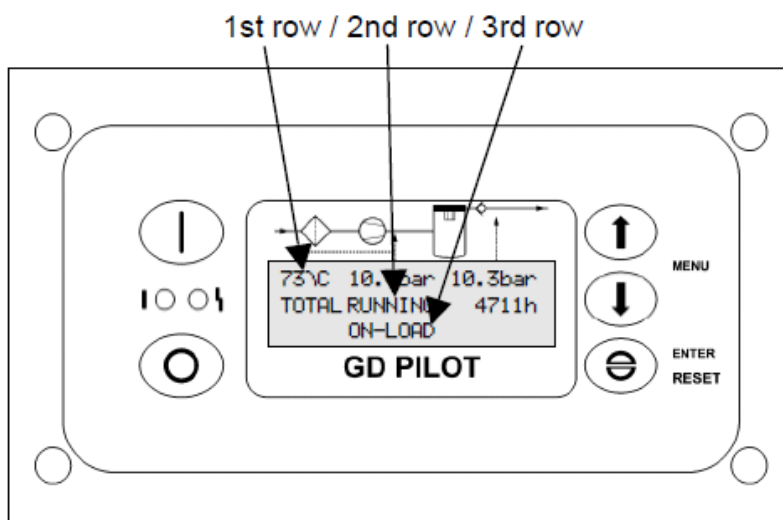

FIGURE 3-1 Controller Layout and Main Screen
- See Fig 3-1 for the layout of the main screen and input devices.